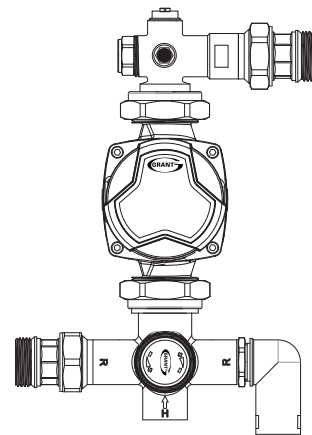

Figure 3-6: Re-fit flow/return connectors
4. Refit the connectors removed in step 1 appropriate for your intended system installation. Ensure that close attention is paid to the O-ring of the elbow to ensure it is not deformed when tightening. If the O-ring begins to deform slacken the elbow back to the required position and tighten the spinning nut to seal. Refer to Figure 3-6